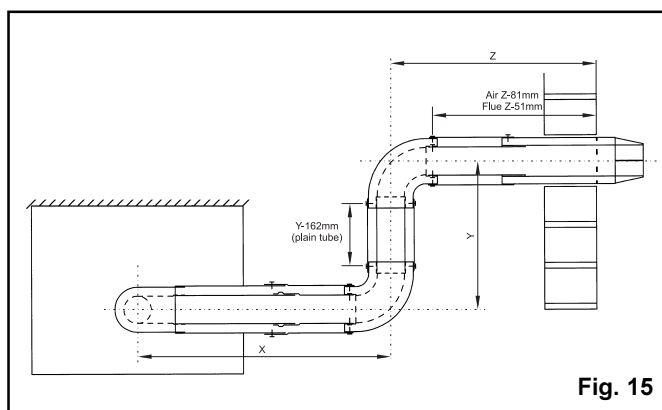

Fig. 15
1) Should $L = 500$ to 600mm then cut the terminal assembly ducts reducing the length of the ducts to 200mm . Then cut each extension to 200mm (see fig 15). Assemble the flue as described below ensuring the correct length ($L + 70\text{ mm}$ for RH side flues, $L + 250\text{ mm}$ for LH side flues, or $L + 155\text{ mm}$ for rear flues).
See Figs. 15 and 16.
Rear flue duct length = $X + 155$ mm. See Fig. 15.
Cut the flue and air ducts which are to make up the first section X such that both the assemblies are of equal length (either $X + 70$ mm, $X + 250$ mm or $X + 155$ mm). Extensions will be necessary to allow X to be larger than 250 mm. Any extension ducts are fixed by drilling a pilot hole through the hole in the duct or elbow and screwing the self tapping screw provided into the two ducts. (See Fig. 15). The length Y is the distance between bends the ducts must be cut to $Y - 162$ mm. The swaged ends must be removed from the extension tube and only the air duct needs fixing. See Fig. 15. Z is the final flue length from the last elbow to the outside face of the external wall. The first duct sections fitted to the elbow must have unswaged ends. The length of the air ducts should be $Z - 196$ mm. The inner flue duct must be 30 mm longer than the air duct. If $Z - 196$ mm is less than 160 mm then the terminal section will need to be shortened to the same length as the extension flue section fitted to the elbow (length $Z - 100$). If flue extensions are needed to attain the required length care must be taken to ensure that the last section of flue is longer than 260 mm.
Each extension must be connected to the previous section of flue or bend by firstly fitting the inner flue ducts together and pilot drilling and fixing as above (See Fig. 15). Then the outer air ducts can be similarly fixed using a pair of screws provided. The flue terminal section can then be telescopically adjusted and fixed as before (See Fig. 15), ensuring the correct length of $Z - 41$. The silicon sealant supplied should be applied to the flue ducts which engage into elbows. See Fig. 15.